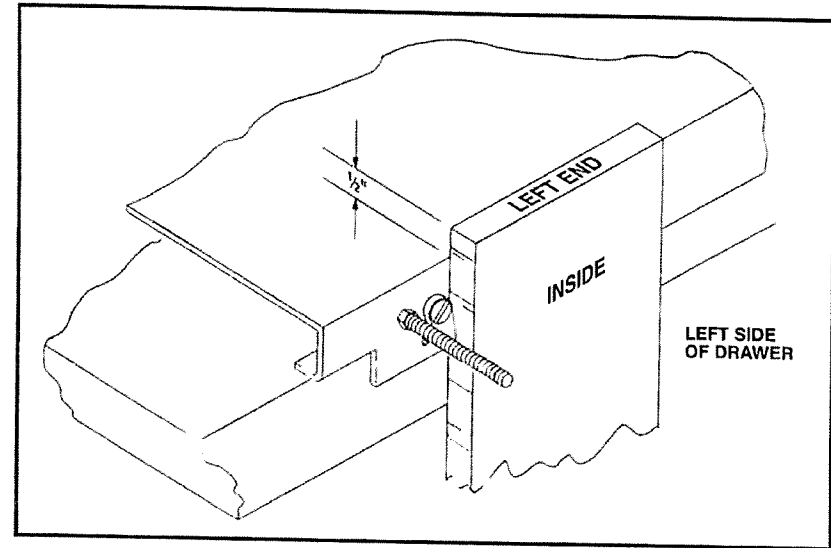

Fig. 11
4. Temporarily clamp the left side of the drawer against the front apron. The piece ("inside out") as in Fig. 11, should be firmly butted against the locating cam on the left end of the apron with about $\frac{1}{2}$ " of stock showing above the top surface of the base as shown in Fig. 11.